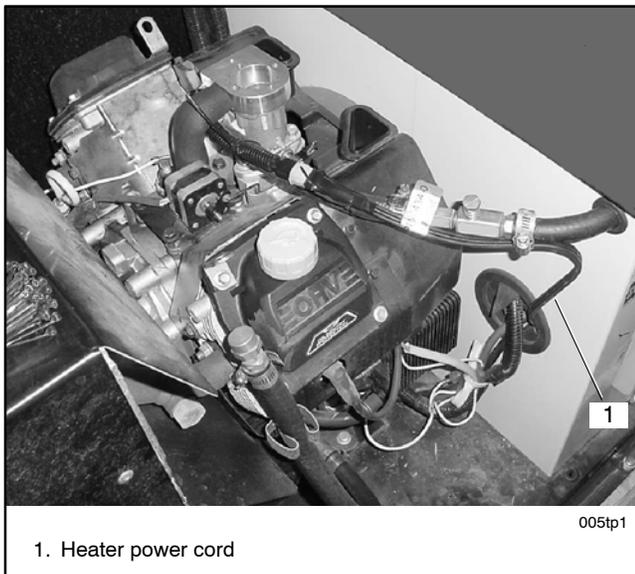

Figure 16 Routing the Power Cord, 8.5/11RMY
- Models 8.5/11RMY: see Figure 16.